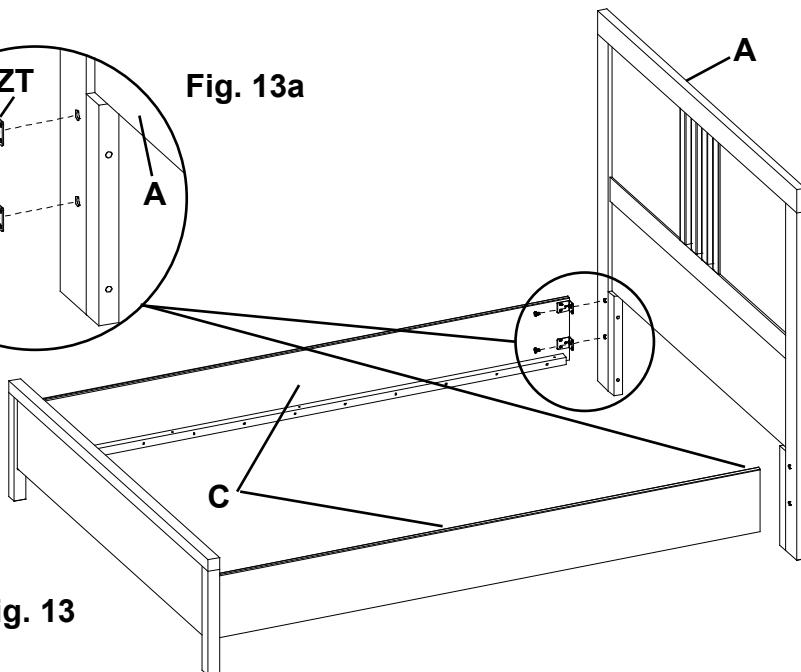

Fig. 13
13. To attach the Headboard (A) to the Side Rail (C), insert two 5/16" x 13/16" Barrel Bolts (ZY) through the Brackets (ZT) into Headboard predrilled holes (A) and securely fasten. Repeat for the other side. See Figures 13 and 13a.